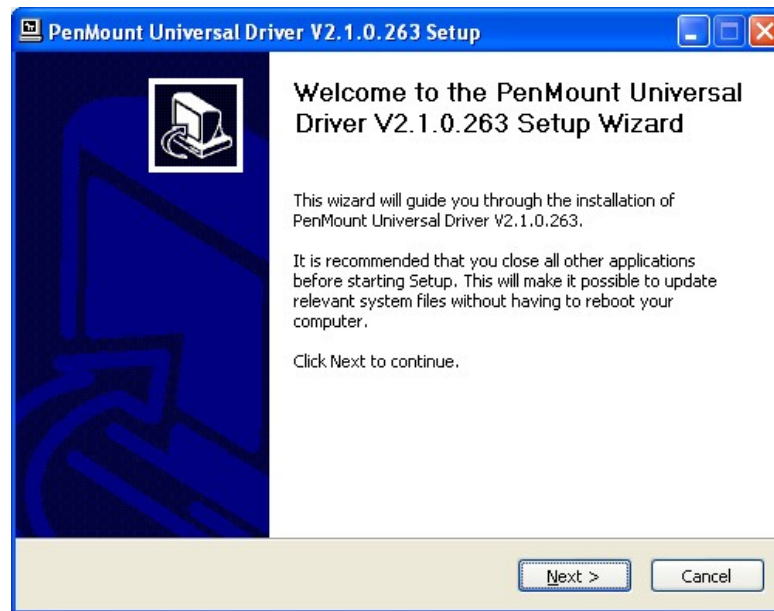

Figure 5-21: Touch Screen Driver Welcome Screen
Step 4: A **Welcome Screen** appears (**Figure 5-21**).